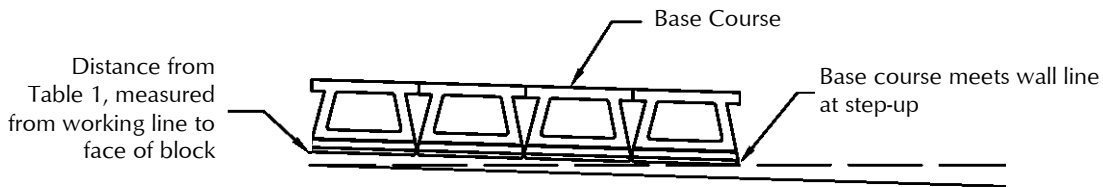

Figure 3: Base Course Construction
6. Start constructing your base course by measuring off the working line the distance shown in Table 1 for one block height. Figure 3 shows the base course construction. Going back to our example wall, using blocks from the AB Collection (6°), we would measure off the *working line* and place each block approximately 7/8 in. (21 mm) away from the *Working Line*.